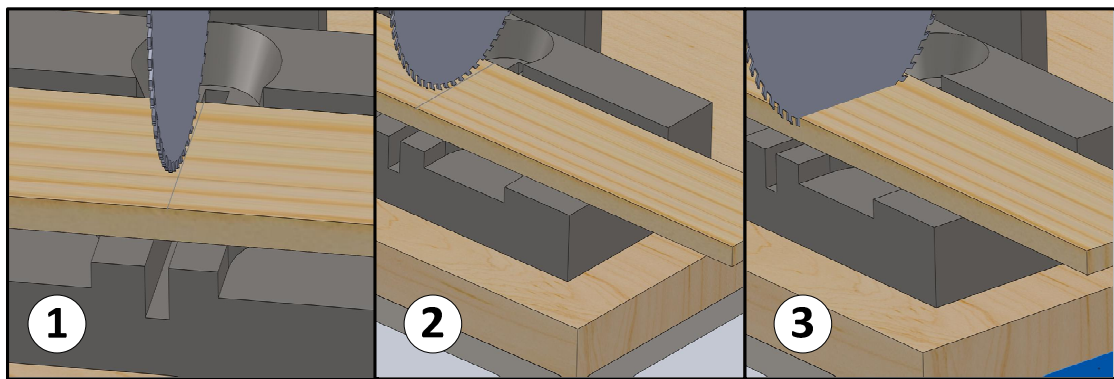

Figure 3: Making the cut.
- C. Next position the board so the 18" section is to the right of the saw. Then position the line drawn in **Step 1** directly to the right of the blade as shown in Figure 3. If the line is positioned directly under the blade, the 18" board will be half a blade's width short of 18". Clamp the board snug against the back of the **Miter Saw**. This can be done with the clamp on the saw.